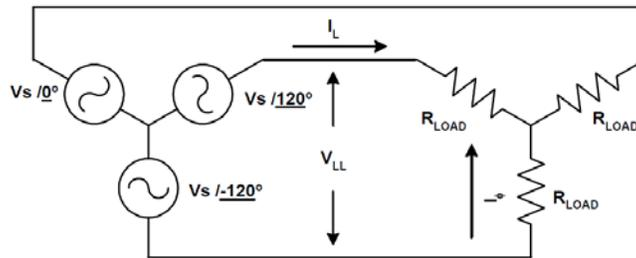

FIGURE 3.3
- 2) For the circuit shown in Figure 3.3 with $R_L = 85.7\Omega$ and $V_s = 120\text{ V}_{ac}$ Determine: